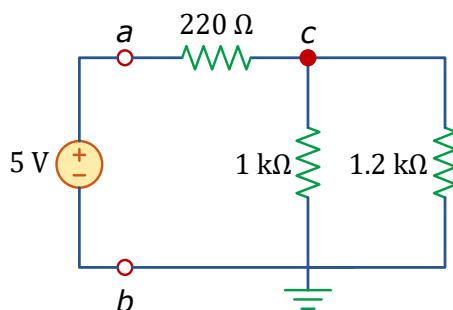

Figure 1.4: Resistive circuit for Lab 1 with DC power supply.
**B.2** Build the circuit shown in Figure 1.4 using a 5-V DC power supply ( $\pm 0.1\ V$ ) with a current limit of 0.5 A . Measure voltages and currents shown in the Tables below